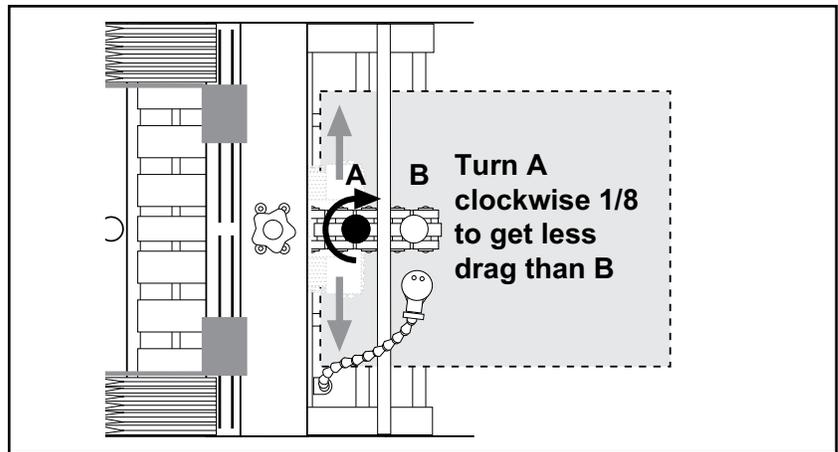

Figure 2-15. Turning Knob "A" Clockwise to Get Slight Drag
3. Turn knob A clockwise 1/8-turn (Figure 2-15) so that slightly less drag exists on the roller closest to gate assembly. Again, verify drag by sliding product side-to-side.